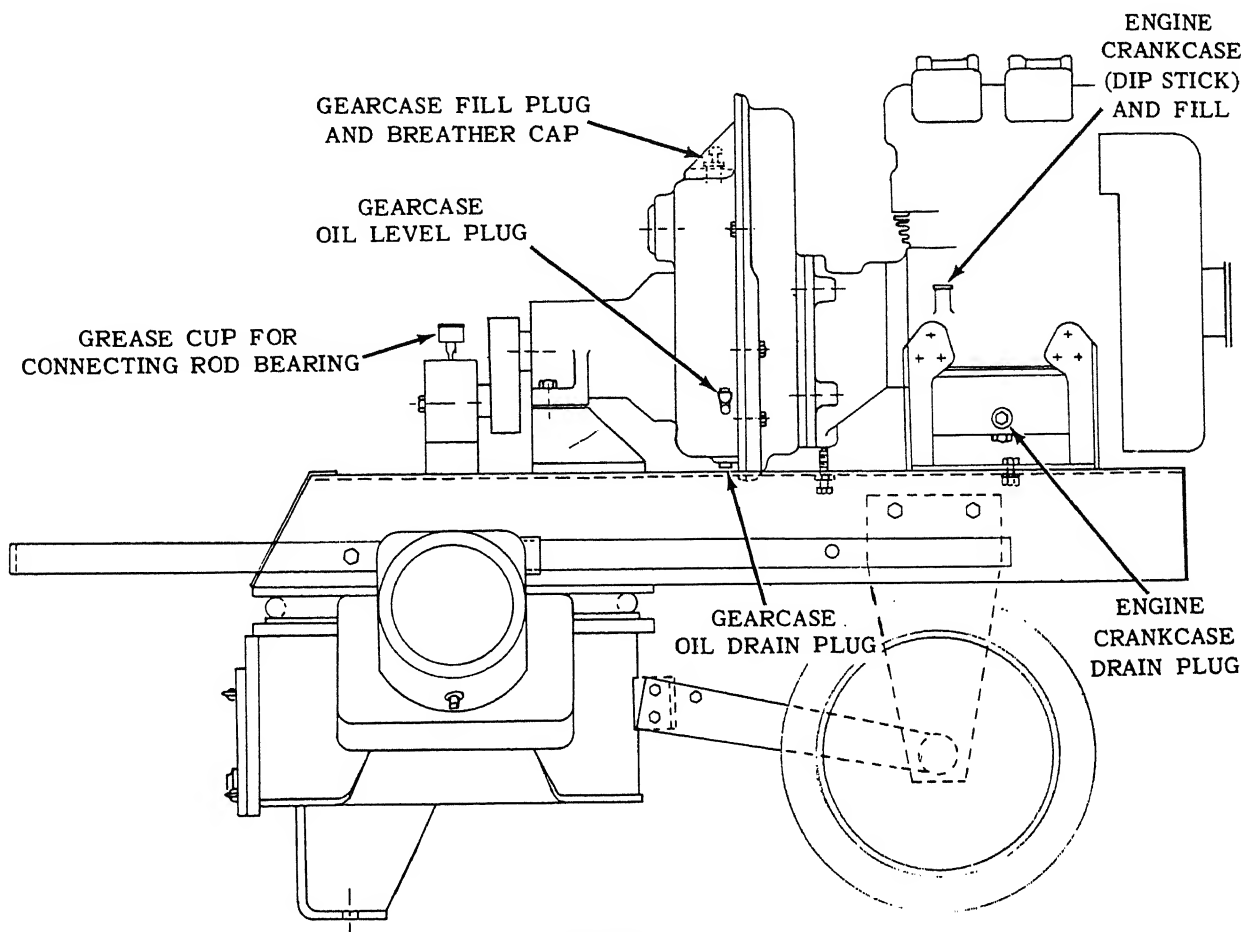

FIGURE 9
6. Lubrication before use — The engine crankcase, pump gearcase and connecting rod bearing grease cup are filled to level points at the factory. However, before operation these points should be checked for oil levels. Refer to lubrication chart, Page 7, Fig. 9 for data.
15. Daily maintenance, reference Fig. 9.
16. Semi-Yearly, reference Fig. 9.